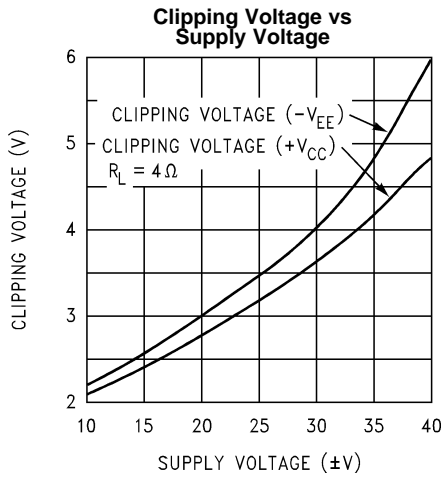

Figure 14.
- (1) All voltages are measured with respect to the GND pin (pin 7), unless otherwise specified.
- (2) Absolute Maximum Ratings indicate limits beyond which damage to the device may occur. Operating Ratings indicate conditions for which the device is functional. Electrical Characteristics state DC and AC electrical specifications under particular test conditions and specific performance limits. This assumes that the device is within the Operating Ratings. The typical value is a good indication of device performance.
- (3) Typical values are measured at 25°C and represent the parametric norm.
- (4) Limits are specified to AOQL (Average Outgoing Quality Level).
- (5) V^- must have at least $-9V$ at its pin with reference to ground in order for the under-voltage protection circuitry to be disabled.
- (6) AC Electrical Test; refer to Test Circuit #2 - AC Electrical Test Circuit.
- (7) The feedback compensation network limits the bandwidth of the closed-loop response and so the slew rate will be reduced due to the high frequency roll-off. Without feedback compensation, the slew rate is typically larger.
- (8) DC Electrical Test; refer to Test Circuit #1- DC Electrical Test Circuit.
- (9) The output dropout voltage is the supply voltage minus the clipping voltage. Refer to Figure 14 in Typical Performance Characteristics.